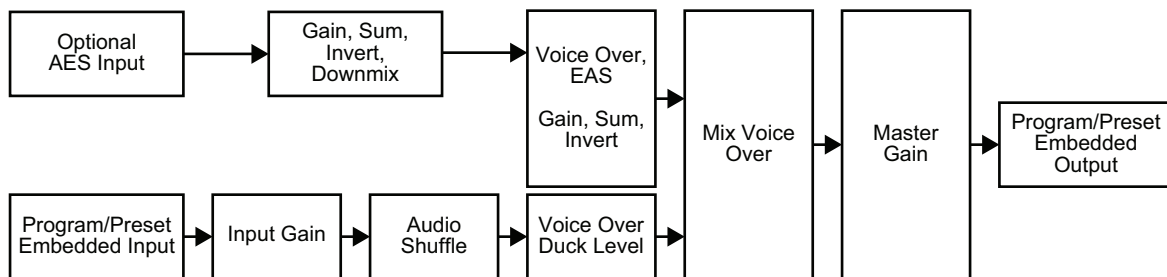

Figure 23 Audio Processing Workflow
**Figure 23** provides a simplified workflow diagram of the audio processing.